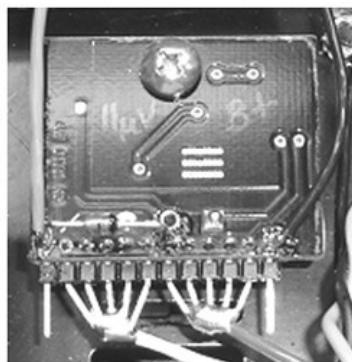
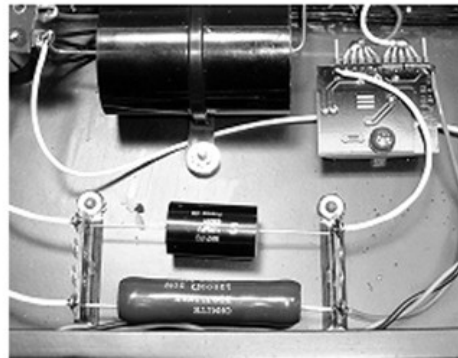

Fig. 7. Diode location on PC board.
Fig. 8. High-voltage parts mounted & wired.
6. Photographs showing typical layouts. (Fig. 7) (Fig. 8)